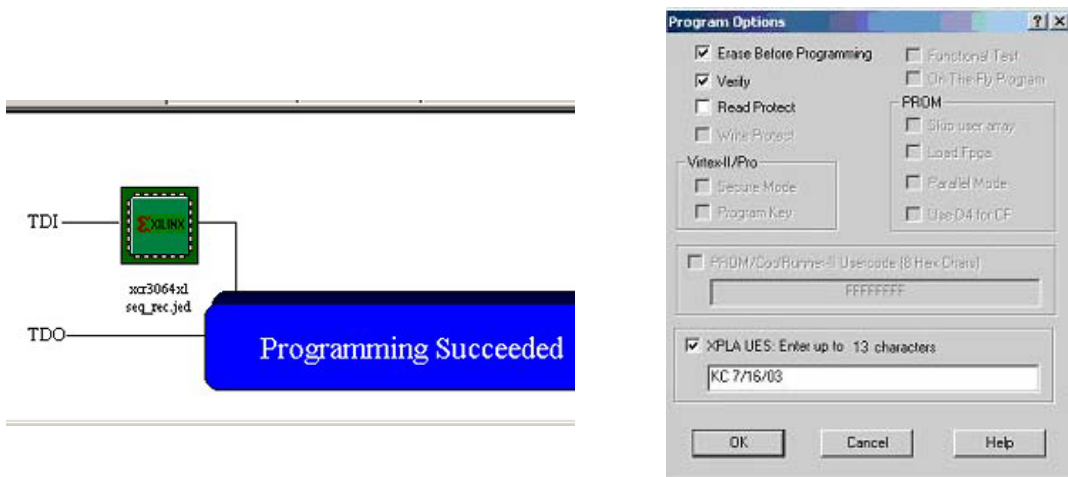

Figure 8; iMPACT window and options for CPLD configuration.
6. Programming the device; Browse for the file disp_controller.jed in your project directory using the resulting window from previous step. Click **Ok**. Click on the Xilinx chip to highlight it and go to **Operations** → **Program**. Figure 8 shows the result of this operation and the options that must be selected. Click **Ok**.
6. Programming the device; Browse for the file top_counter.jed in your project directory using the resulting window from previous step. Click **Ok**. Click on the Xilinx chip to highlight it and go to **Operations** → **Program**. Figure 8 shows the result of this operation and the options that must be selected. Click **Ok**.